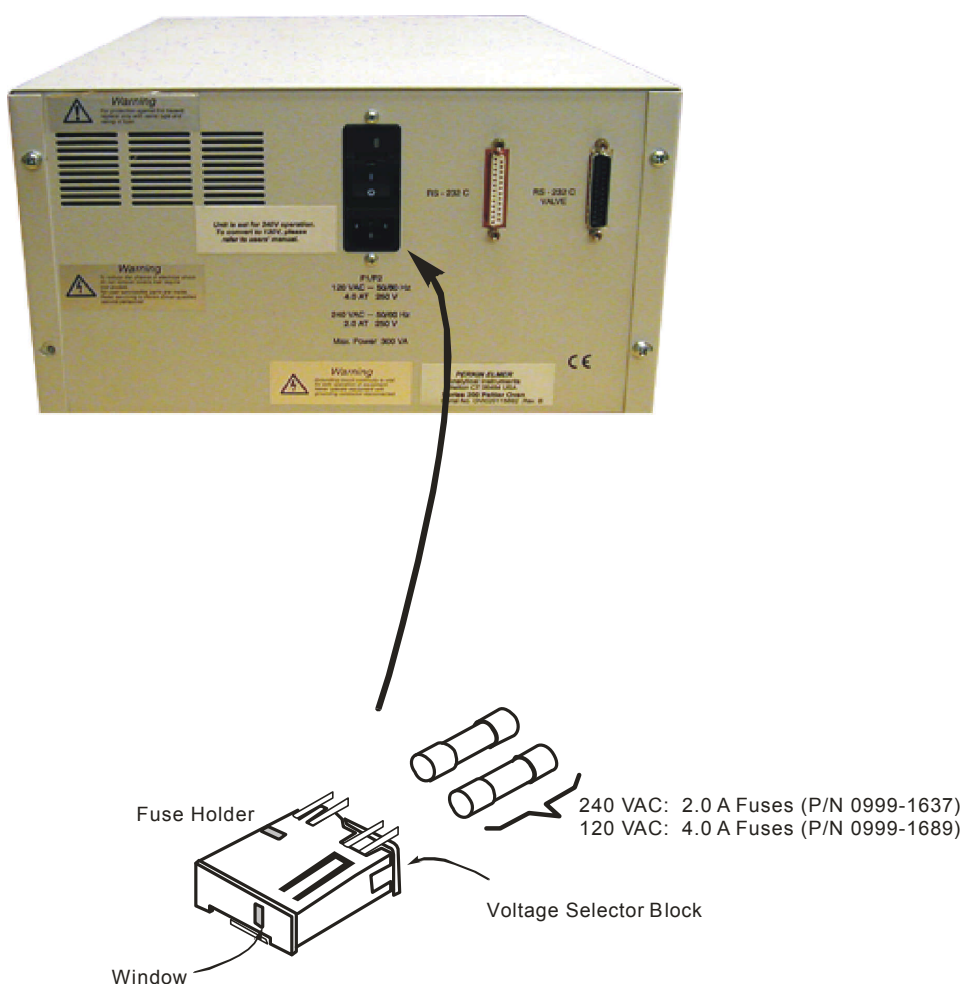

Figure 2-2. Removing and installing fuses.
The case is 34.0 cm (13.4 in.) wide, but additional space is required on each side for the tubing to the column oven. The case is 48.0 cm (18.9 in.) deep, but additional space is required behind the unit to accommodate the power cord which is at the rear of the column oven (see Figure 2-2).
To change the voltage, proceed as follows (see Figure 2-2):
3. Install the appropriate fuses in the fuse holder for that voltage (see Figure 2-2).